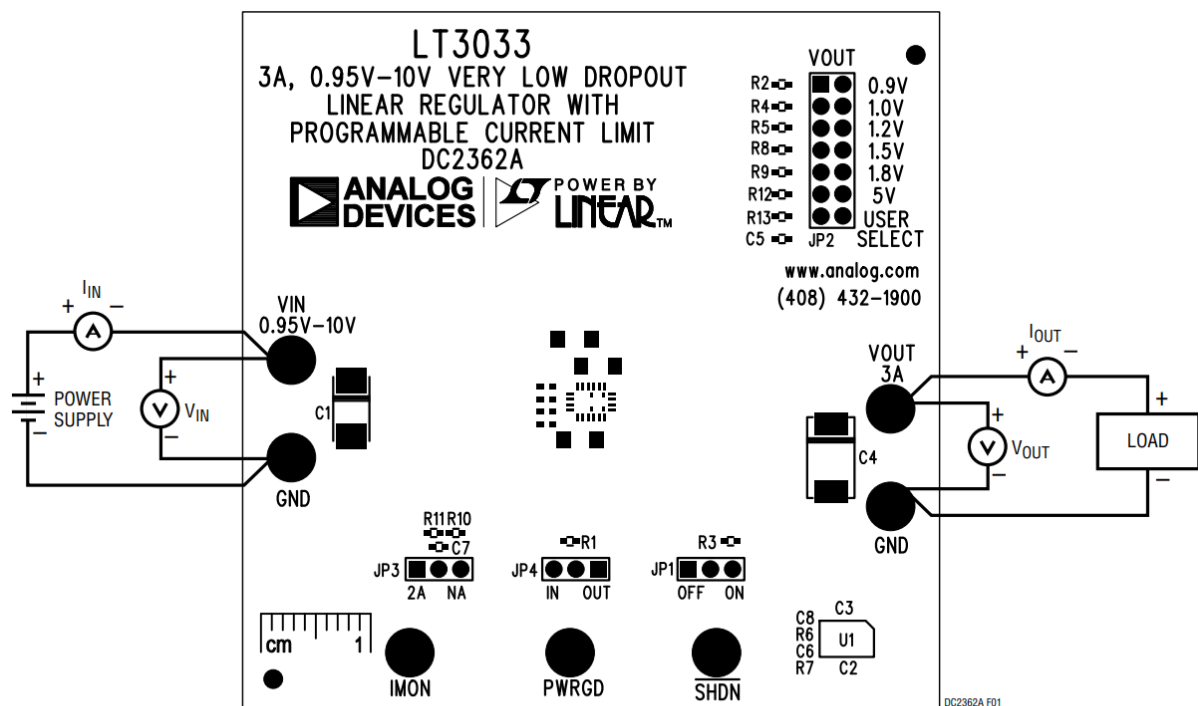

Figure 1. Proper Measurement Equipment Setup
Demonstration circuit 2362A is easy to set up to evaluate the performance of the LT3033. Refer to Figure 1 for proper measurement equipment setup and follow the procedure below.
2. With power off, connect the power supply, load, and meters as shown in Figure 1.